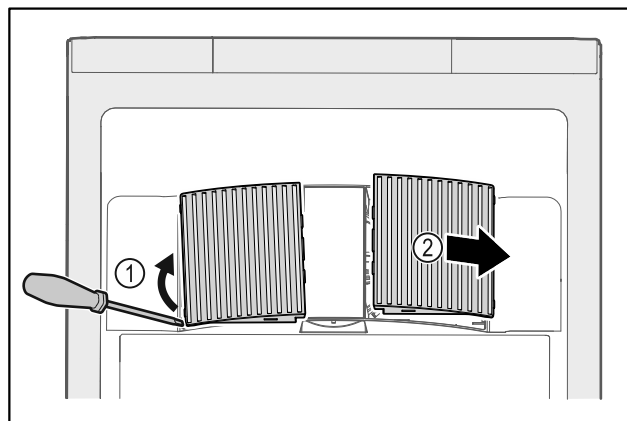

Fig. 203
- ▶ Carefully lever out fan covers from the side Fig. 203 (1) and remove towards the front Fig. 203 (2).